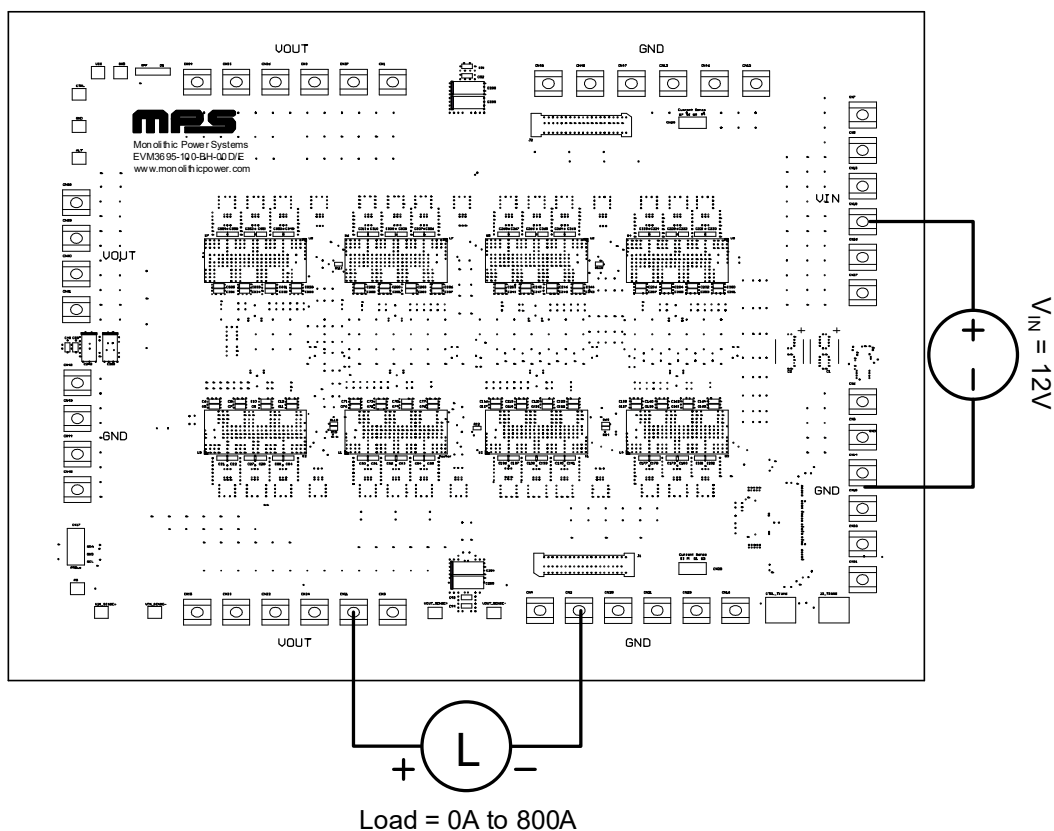

Figure 1: Measurement Equipment Set-Up
7. Figure 1 shows the measurement equipment set-up. ⁽²⁾